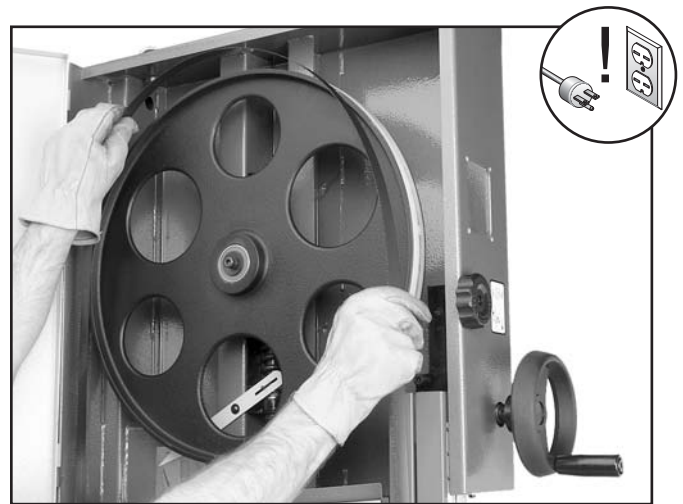

Figure 83. Placing blade on the wheels.
3. Slip the blade through the guides, and mount it on the upper and lower wheels (**Figure 83**).